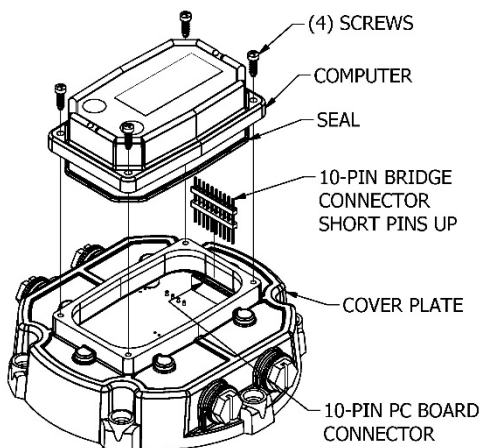

Figure 4a
- Make sure the seal is seated in its groove on the bottom of the computer (see Figure 4a & 4b).